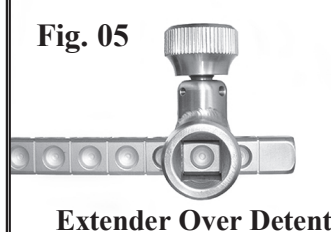

Fig. 05
**With arm board in place** Cross Square feature provides proper placement of ratchet to chest wall by mounting Rultract® System above or below the arm board (Fig. 05 & 06).